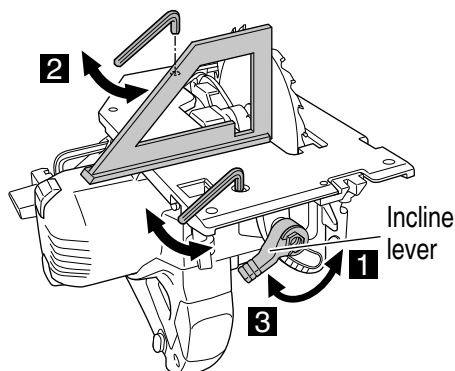

Fig. 48
6. Adjusting the base and saw blade to maintain perpendicularity (**Fig. 48**)